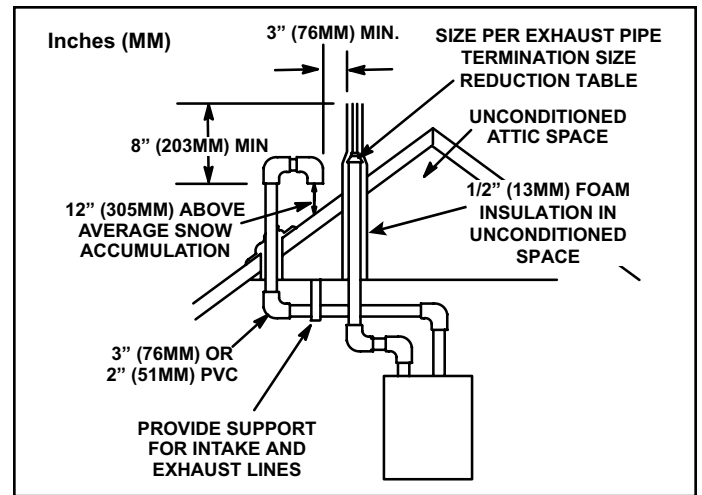
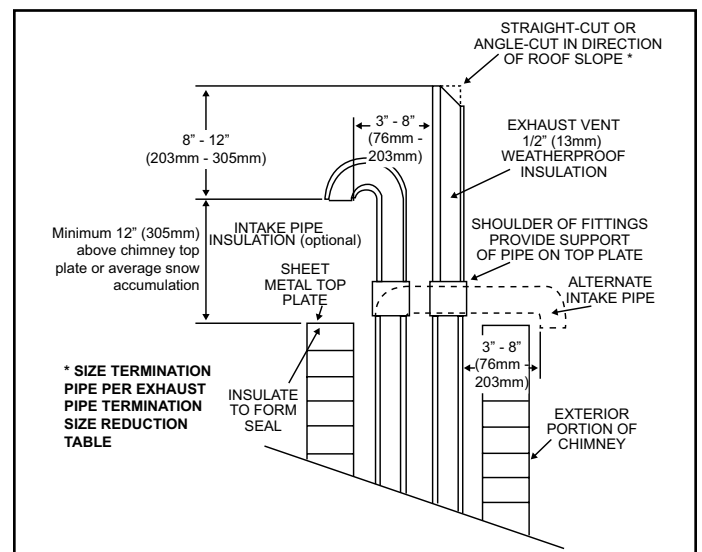

Figure 36. Direct Vent Roof Termination Kit (15F75 or 44J41)
Figure 44. Direct Vent Application Using Existing Chimney
Intake and exhaust pipes may be routed either horizontally through and outside wall or vertically through the roof. In attic or closet installations, vertical termination through the roof is preferred. Figure 36 through Figure 44 show typical terminations.
3. On roof terminations, the intake piping should terminate straight down using two 90° elbows (see Figure 36).